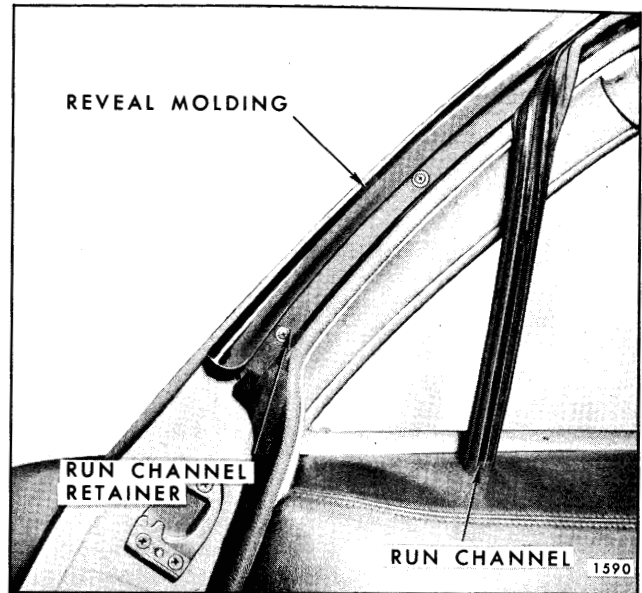

Fig. 9-50—Tail Gate Upper Glass Run Channel Retention
2. Once run channel has been removed, the retainer attaching screws are exposed. (See Fig. 9-50.) The retainer can be adjusted by loosening attaching screws, shifting retainer to desired position and tightening screws. If retainer is removed, seal same with medium body sealer prior to installation.